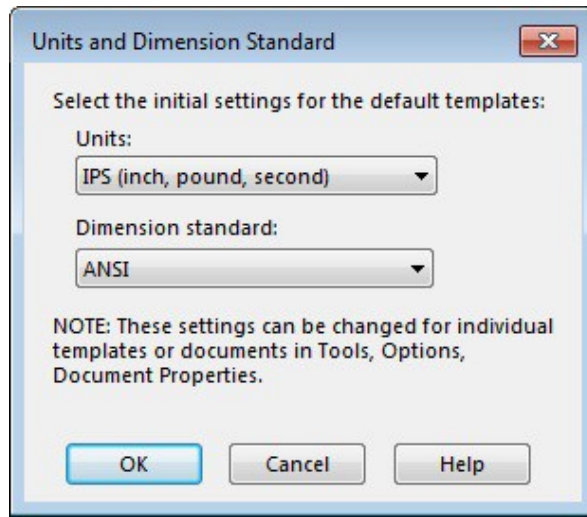

Figure 1-4 *The Units and Dimension Standard dialog box*
*If you are starting SOLIDWORKS 2016 for the first time, then on invoking the **New SOLIDWORKS Document** dialog box, the **Units and Dimension Standard** dialog box will be displayed, as shown in Figure 1-4. Using this dialog box, you can specify the default units and dimension standards for SOLIDWORKS. In this book, the unit system used is MMGS (millimeter, gram, second) and the dimension standard used is ISO.*